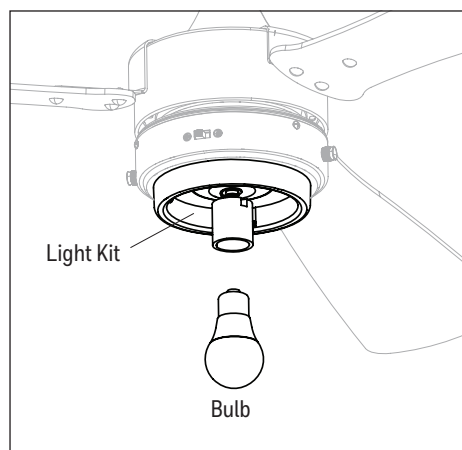

Figure 5.8
8. Install the E26-base LED bulb into the socket of the light kit. **Important:** Make sure you allow the bulb and light kit to cool before you replace the bulb (Figure 5.8).